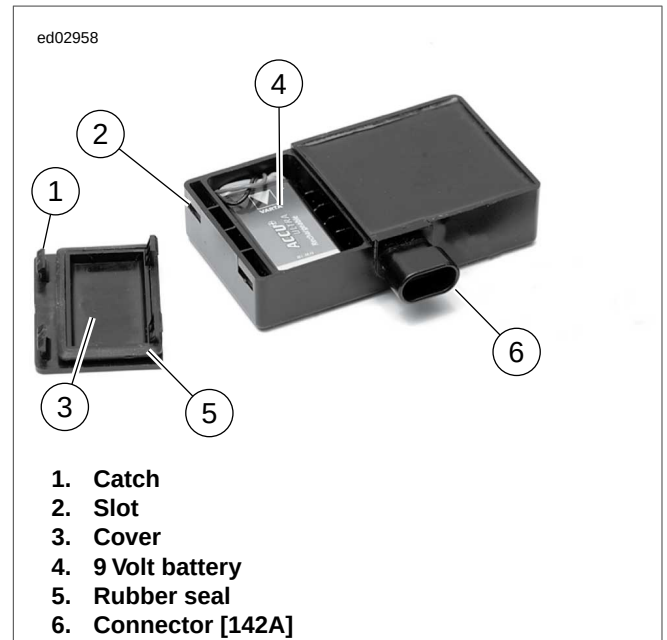
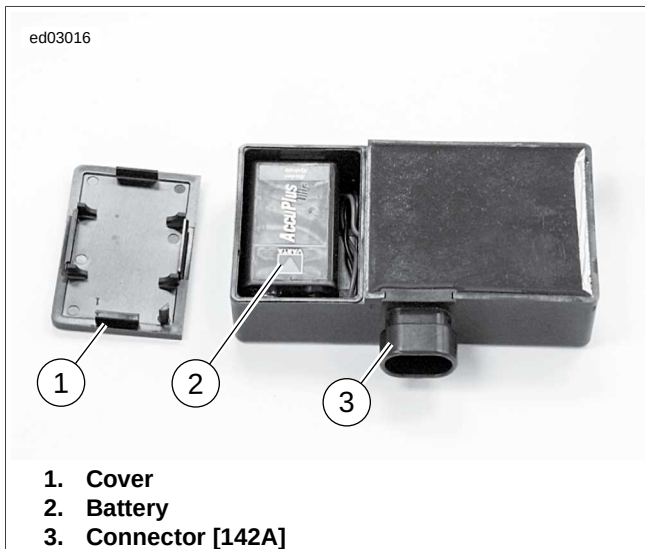

Figure 3-37. Siren Battery Compartment (Late Style Siren)
Figure 3-36. Battery Compartment (Early Style Siren)
- See Figure 3-36 and Figure 3-37. Early style siren will work with both TSSM and HFSM. Late style siren will only work with HFSM.
2. See Figure 3-36. Remove battery cover.
2. See Figure 3-37. With a small screwdriver or pick, push the catches (1) in through the two slots (2) in the end of the siren to release the battery cover (3).